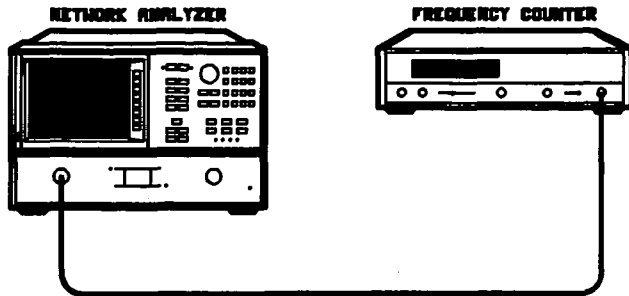

Figure 4-6. Frequency Range and Accuracy Test Setup
1. Connect the equipment as shown in Figure 4-6 and press **RECALL** **RECALL FAC PRESET** **MENU** **CW FREQ.**